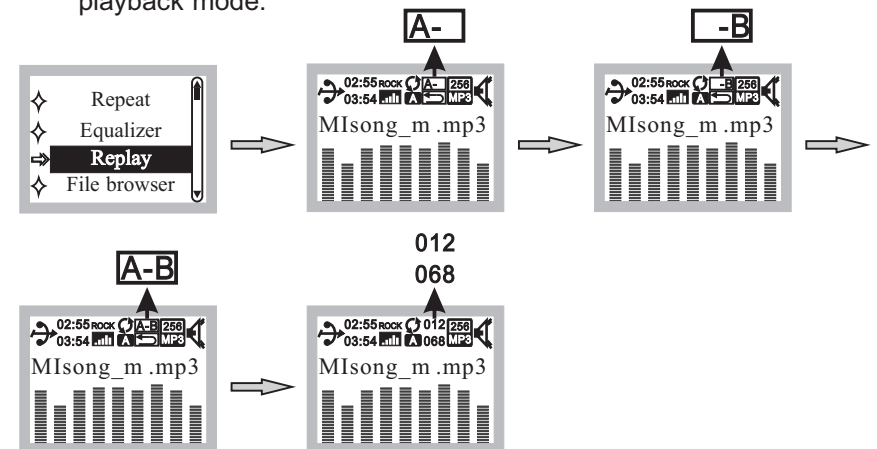

Fig. 14
(H) Replay Mode, Fig. 14:
- (1) Reply A- / -B mode.
- (2) In Replay Mode, press PLAY/PAUSE to enter.
- (3) Press NEXT/TEN to select A- ; press NEXT/TEN again to select -B. Then it will replay A-B.
- (4) Press PLAY/PAUSE to stop Replay Mode and return to playback mode.